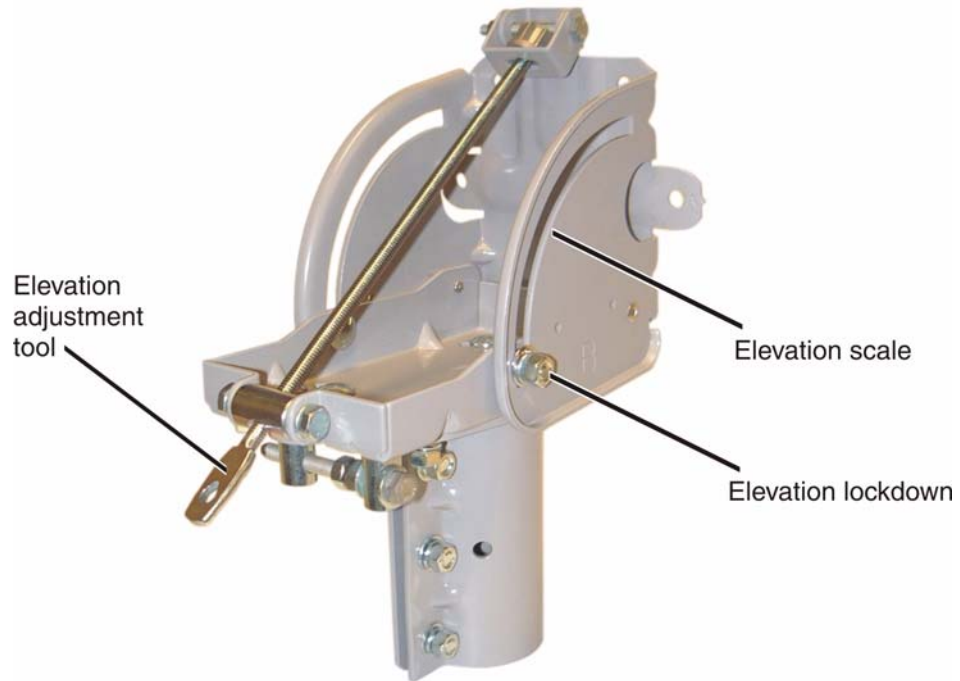

Figure 31: Elevation adjustment components
1. To begin, unlock the elevation by loosening the two 5/16-inch elevation lockdown nuts on either side of the Az/EI mount. Figure 31 shows the location of the nuts (only one nut is shown).